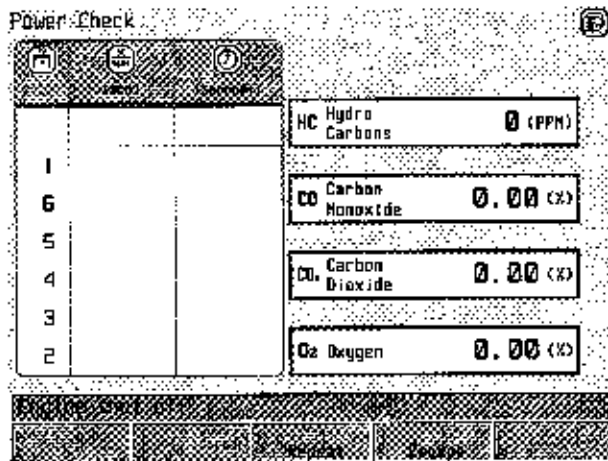

Figure 2-12
3. The "Power Check" screen appears (see Figure 2-12). Follow the screen prompt or press: